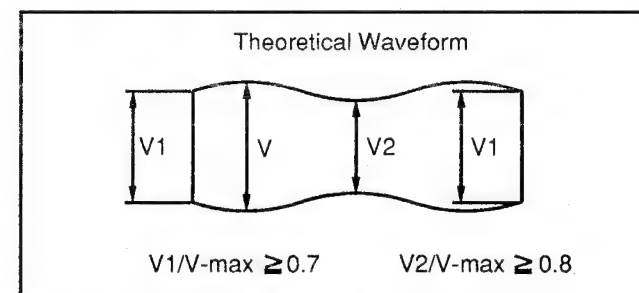

Fig. M17-1
2. Play back the monoscope portion of the alignment tape (VFMS0001H6) and confirm that the RF envelope appears, as in Fig. M17-1.